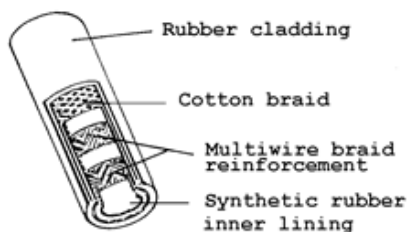

FIG 4.
- Double wire braid for higher pressures. (Fig 4)